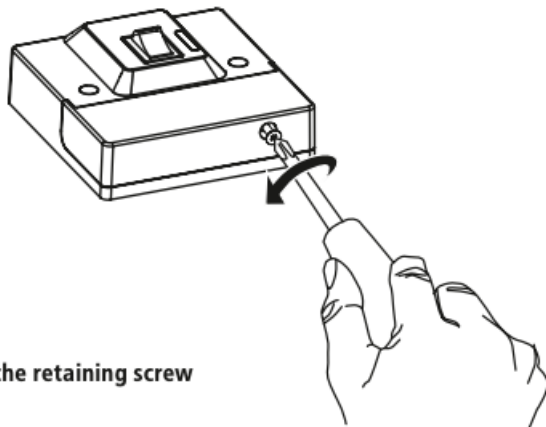

Fig 3 – Loosen the retaining screw
4.2 Loosen the retaining screw located on the bottom of the light switch, and open the hinged front cover that conceals the battery holder and On-time/Lux adjusters. (Fig. 3)